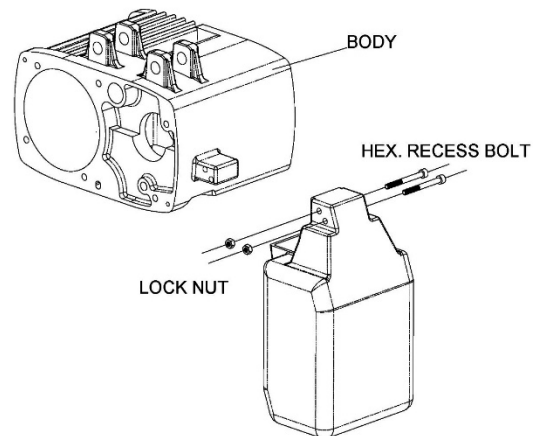

Figure 9-3
3. Mount chain container to hoist undercarriage, using two bolts with lock nuts See Figure 9-3.